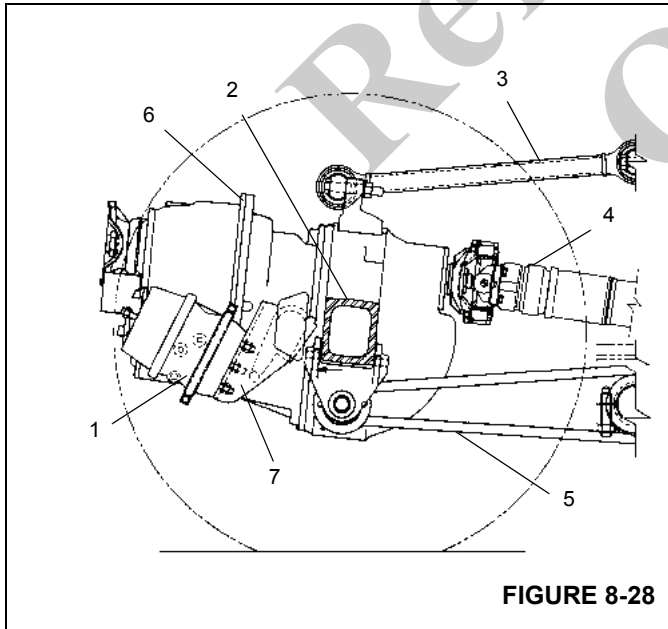

FIGURE 8-28
5. Unbolt the air brake chamber from the mounting bracket and remove the air brake chamber (see Figure 8-28).